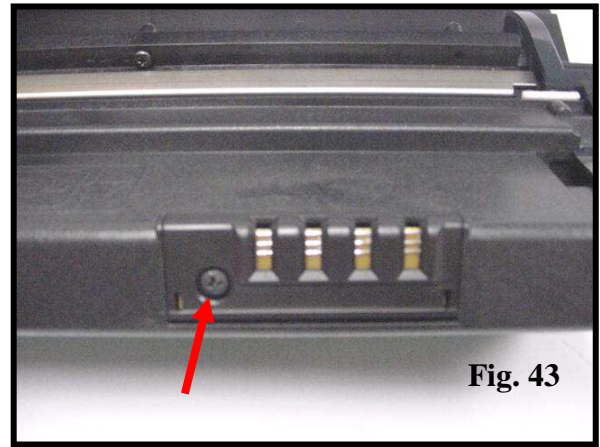

Fig. 43
43. Remove the screw that secures the chip with the plastic housing (Fig 43).